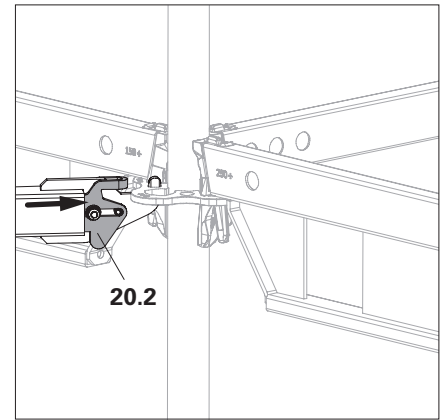

Fig. A4.02d
- 3. Push the slider in the direction of the rosette until the locking pin **(20.3)** falls into the longitudinal groove. (Fig. A4.02d – A4.02f)